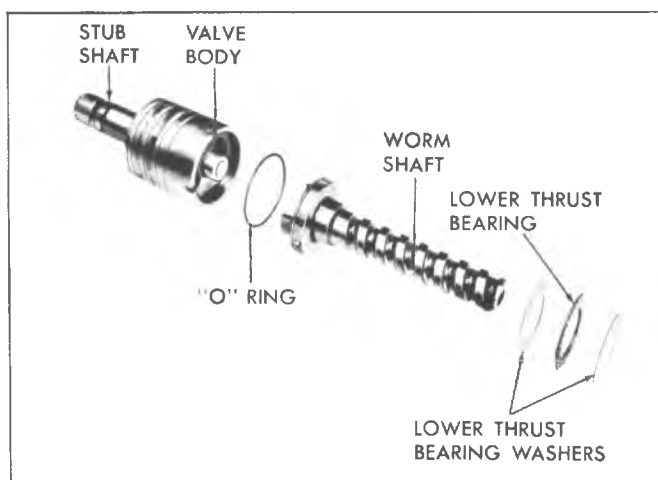

Fig. 54--Worm and Valve Body--Exploded View
1. Lubricate the worm, lower thrust bearing and the two thrust washers with Power Steering Fluid, then install one thrust washer, the bearing, and the other thrust washer over the end of the worm (fig. 54).